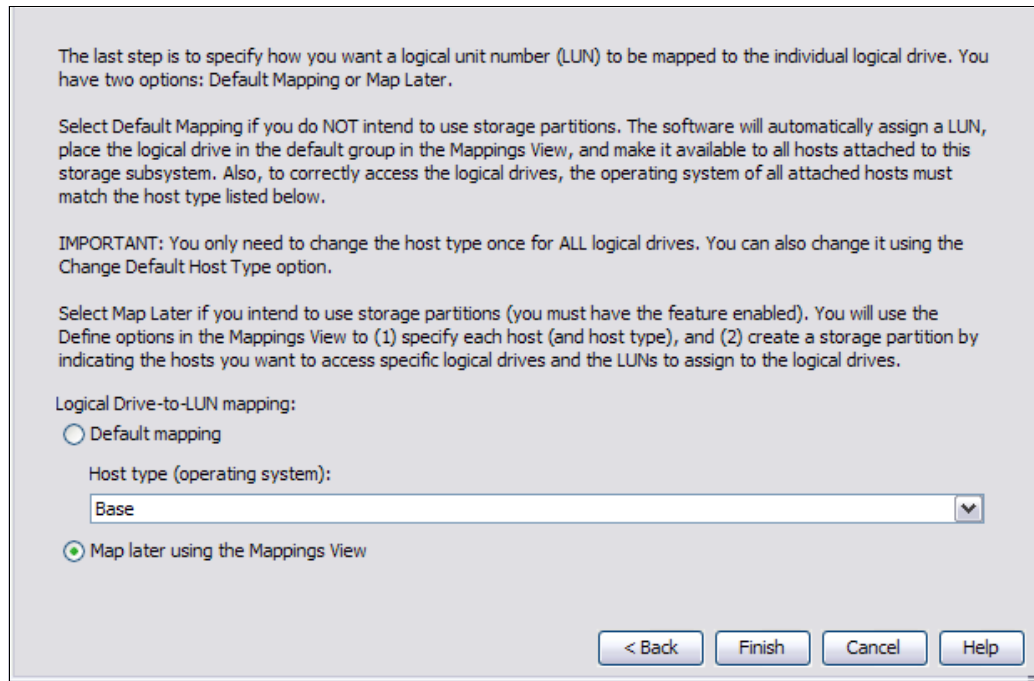

Figure 6-24 Logical drive to Lun Mapping
- d. In the next window, you can map the LUN to the SAN Boot host if it is defined already, otherwise, you can choose to map it later, as shown in Figure 6-24.